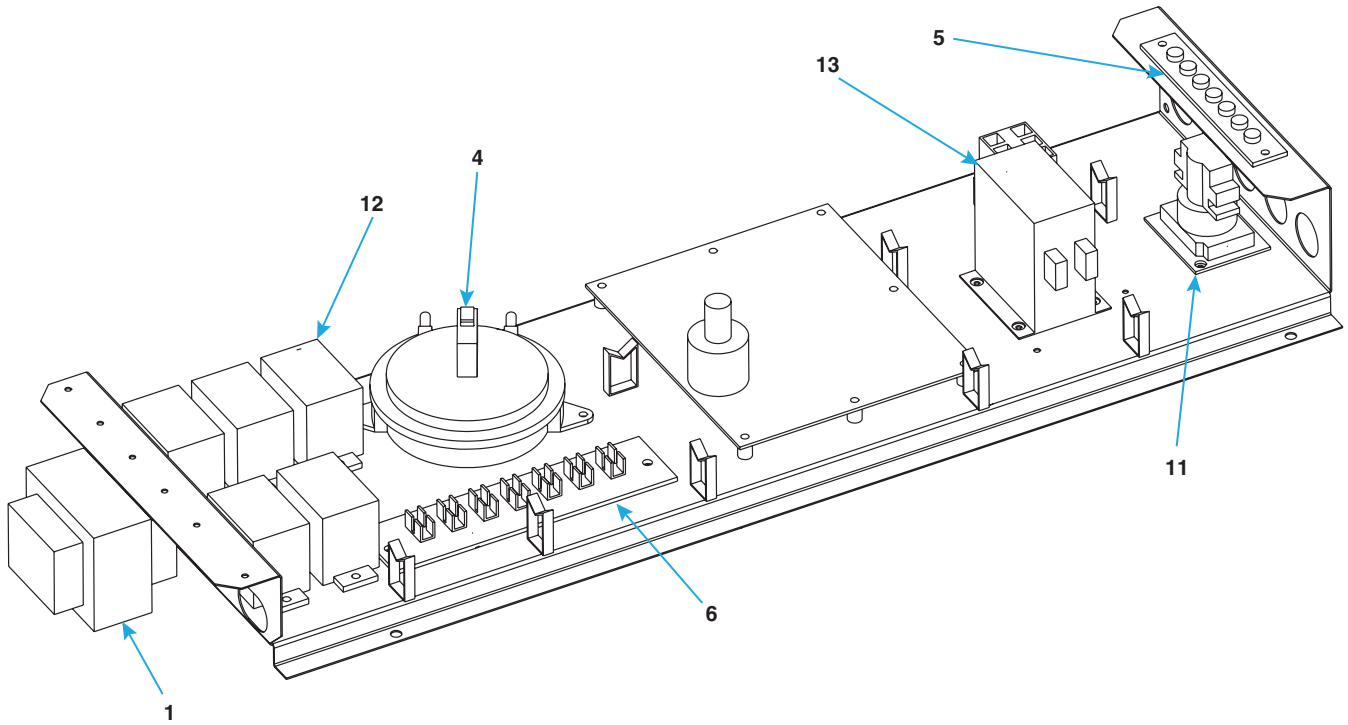

Figure 1. Electrical Control Panel (Refer to Table 3)
- A typical control panel is shown in Figure 1.